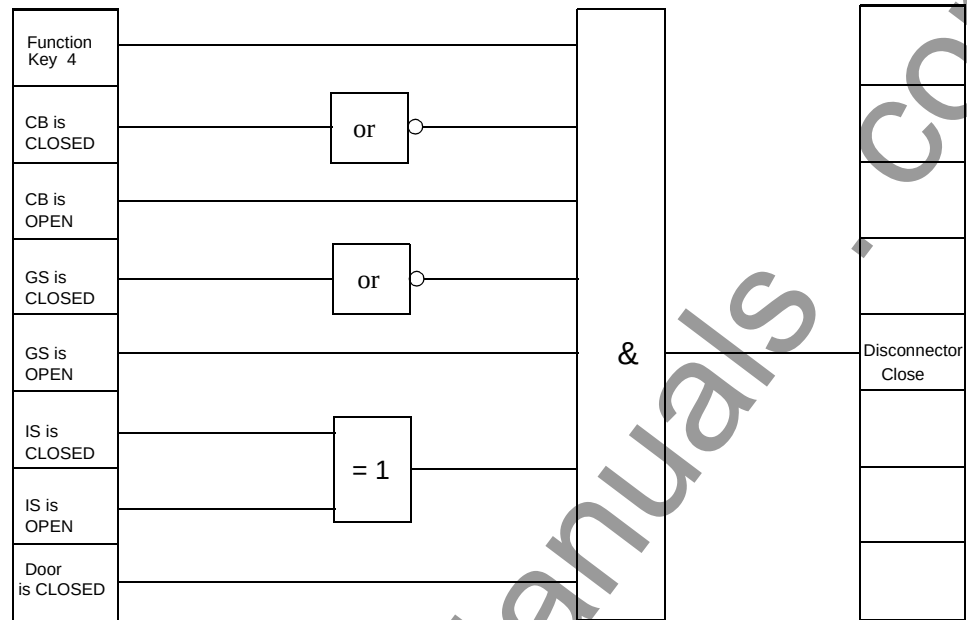

Figure 5-43 Interlocking an Disconnect Switch as an Example of a User Defined Interlock Protective Function
Interlocking logic (See Figure 5-43) is to be implemented for the operation of an isolating switch using function key 4. The user must take the switch position indications of the corresponding isolation switch and the grounding switch into account. The CLOSE and TRIP indications from the auxiliary contacts of each switch are used.
- The CLOSE indications from the circuit breaker (CB) and from the grounding switch (GS) are supplied to the inputs of the NOR functions.
- The OPEN indications from the circuit breaker (CB) and from the grounding switch (GS) are supplied to the inputs of the AND function.
- The switch position indications from the disconnect switch (IS) are linked to the inputs of the XOR function.
- Function key 4 is linked with an input of the AND function.